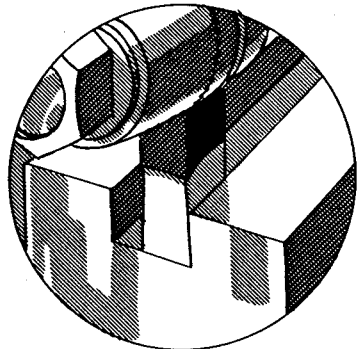

FIG. 464
16. Without changing this setting, move the work to the left with the table feed screw a few one-thousandths at a time until the tool has passed to the other corner of the slot (Fig. 464).